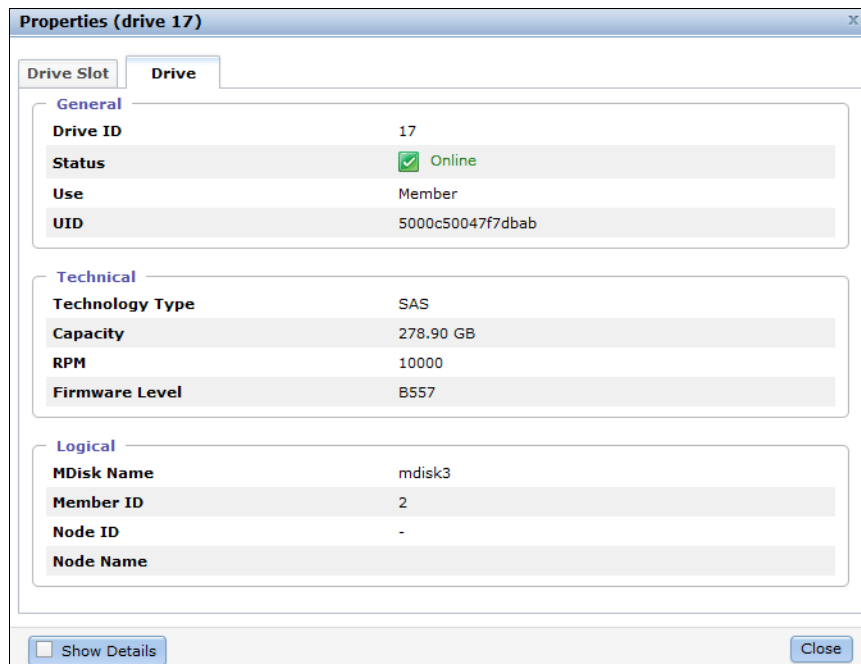

Figure 8-9 Properties tab with default format
- ▶ Clicking **Show Dependent Volumes** shows you the volumes that are dependent on the drives. Clicking **Properties** in the **Actions** drop-down menu, or double-clicking the drive, provides more information about the drives (Figure 8-9).